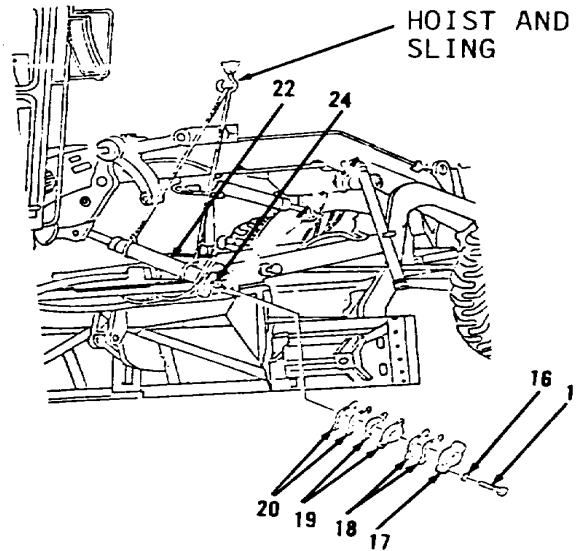

Figure 10-124.
1. Attach hoist and sling to cylinder (22, Figure 10-124).
2. Using clean grease, lubricate ballstud (24) and two inserts (19) after surfaces are wiped clean.